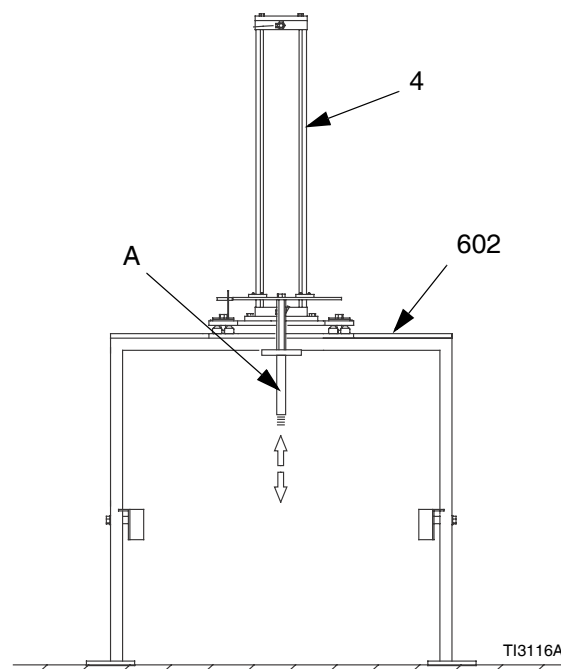
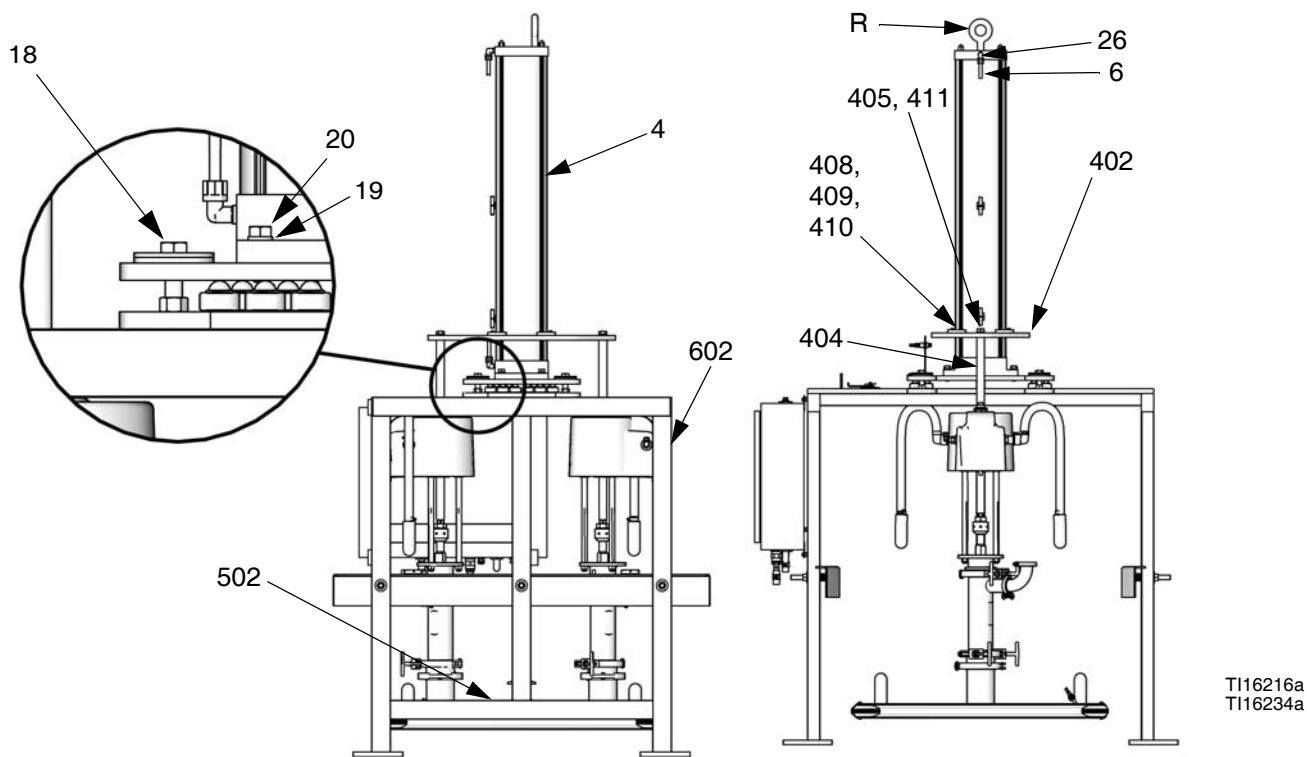

FIG. 3: Air Cylinder Shaft
FIG. 4: Air Motor Mounting Plate (BESA7A shown)
1. Using a hoist, lift the air cylinder (4) into position on top of the frame (602). See FIG. 3.
2. Lower the air cylinder shaft (A) through the center hole in the frame.
3. Secure the air cylinder (4) to the frame (602) with the screws (20) and washers (19). See FIG. 4.
4. Install the air motor mounting plate (402), slipping plate over the top and down the length of air cylinder (4).
5. Using tubing (6), connect the cylinder upper air supply line to the upper 1/2 in. elbow (26).
6. Using tubing (6), connect the cylinder lower air supply line to the 1/2 in. lower elbow (26).
7. Loosen but do not remove the screws (18) from the frame (602).
9. Remove the two band straps that hold the ram plate (502) to the shipping pallet. Do not remove the pallet.
10. Apply sanitary grease (36, supplied) to the cylinder shaft threads to avoid damaging them. Align and screw the air cylinder shaft (A) into the ram plate (502). See FIG. 3. If the shaft does not thread properly, do not force it. Re-check alignment of plate (502).